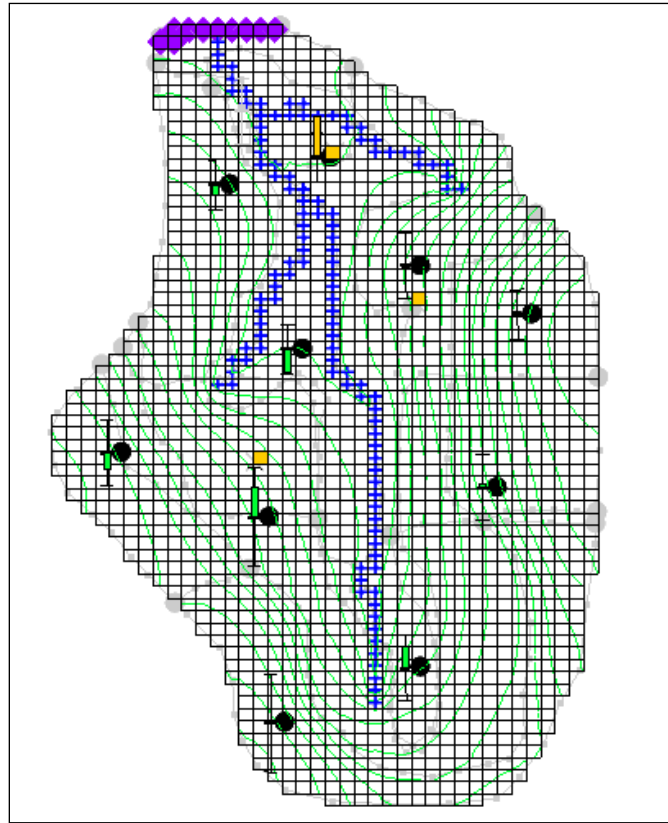

Figure 5 Each well shows a reduced residual error
3. Select the “ Observation Wells” coverage. Notice that the residual error has been greatly reduced for all monitoring wells (Figure 5).